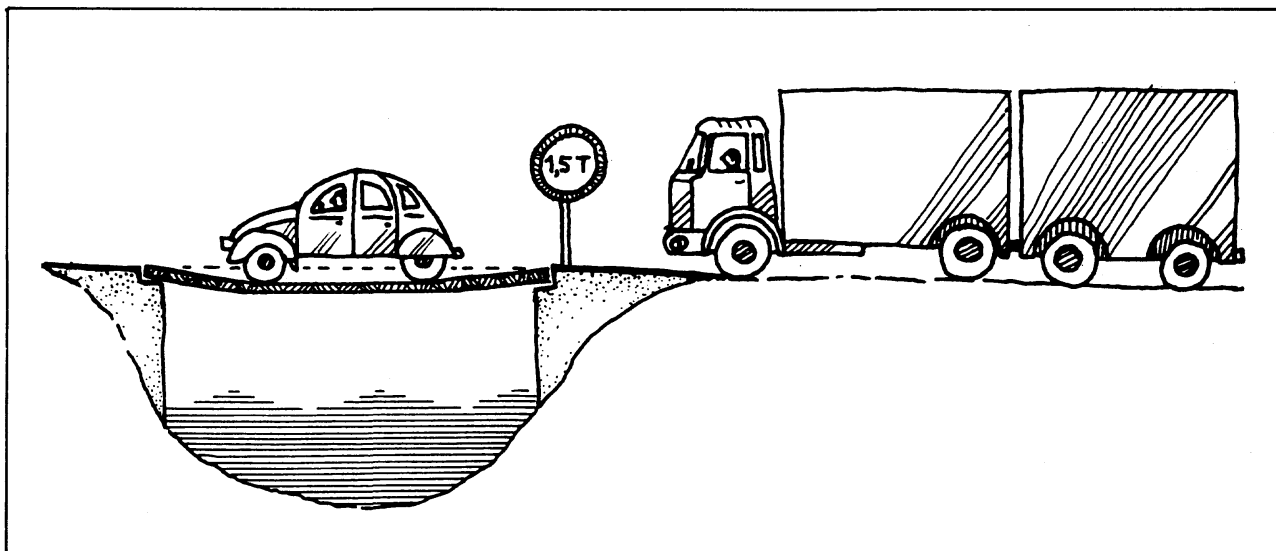

Figure 2 A simple beam bridge bends easily
*Acknowledgements* Figures 2, 4, 5, 6, 7, 9 and 10 are reproduced by permission of State University of Utrecht, PLON.
The main problem with bridges is that they tend to bend, like the simple beam bridge in Figure 2.